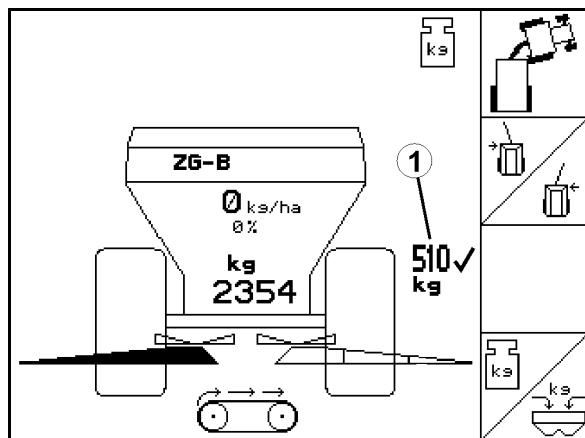

Fig. 11
- The quantity of fertiliser spread is shown in the work menu (Fig. 11/1).